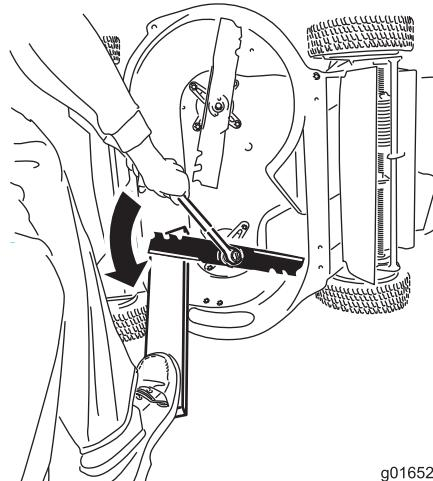

Figure 36
- Use a block of wood to hold each blade steady and turn the blade bolt counterclockwise as shown in Figure 36.